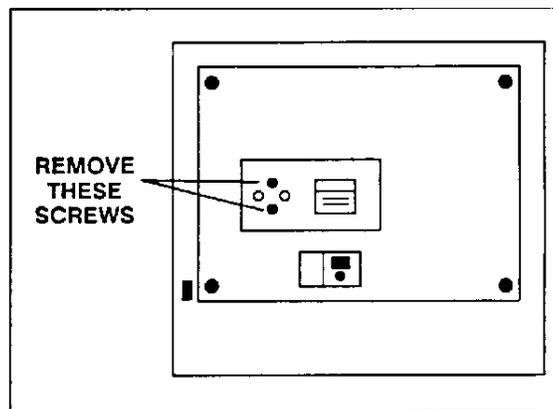

Figure 12
4. Turn scale upside down, remove the two Hex head screws and allow the load cell to drop. Be sure to retrieve the bottom spacer. (See Figure 12).